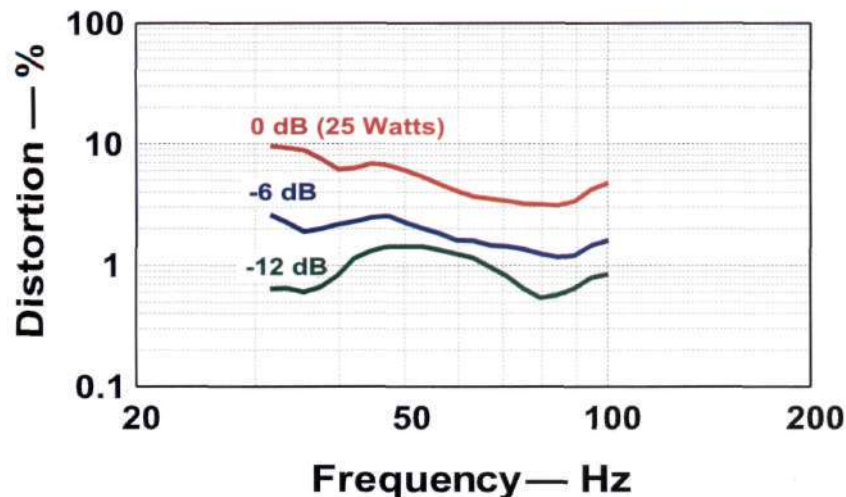

Fig. 5b: Intermodulation distortion versus frequency and power level.
The SM 450 woofer's intermodulation distortion (IM) was measured with the same power levels and test conditions as in the harmonic distortion test but over a slightly different range of frequencies. For this test, I applied two tones of equal level, one fixed at 440 Hz, the other varying from 31.6 to 100 Hz in half-octave steps. The dual-tone test signals were applied to the speaker for one half second each. The test results, expressed as a percentage of the energy of the two original test tones, represent the total energy of three intermodulation sidebands above and three below the higher test frequency. The IM (Fig. 5b) varies slightly over the tested frequency range and increases as the power level increases. At the highest test level (25 watts) the IM rises to roughly 10% at the lowest test modulating frequency. While 10% harmonic distortion is not annoying, 10% IM distortion is. At power levels of -6 dB (5 watts) and less, the IM remains below 3%.